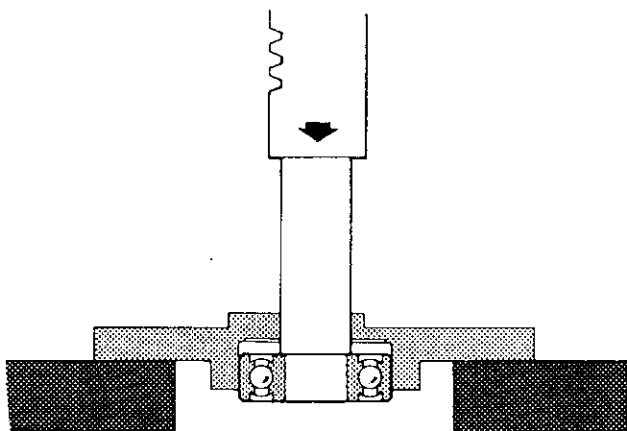

Figure 6.9
11. Remove the four bearing retainer screws (21) and lockwashers (22) from the upper end plate bearing cover (23) and remove the cover.
12. Remove the six upper end plate screws (26) and lockwashers (27) and, using a knife edge, separate the upper end plate (28) from the air motor casing (35). Discard the upper end plate seal (29).
13. Press the upper end plate bearing (25) from the end plate as shown in Figure 6.9.